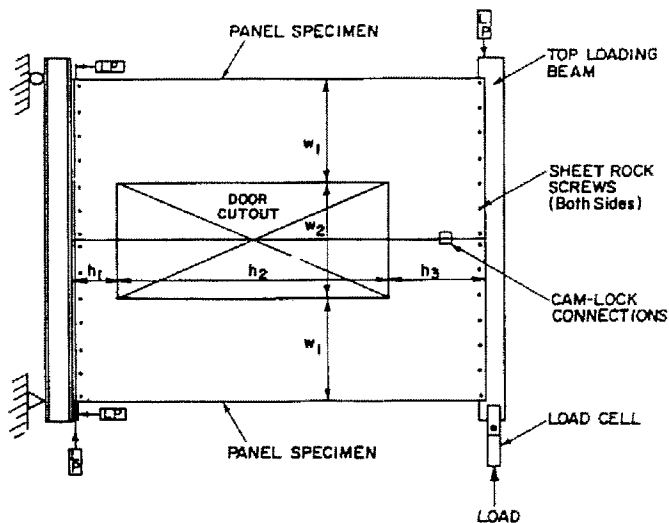

FIGURE 6*
2. The size of the door and window openings shall not exceed those shown in Figures 6 and 7 of this report, and the opening shall be rough framing with 2x4 dimension lumber, as shown in Figure 5 of this report.